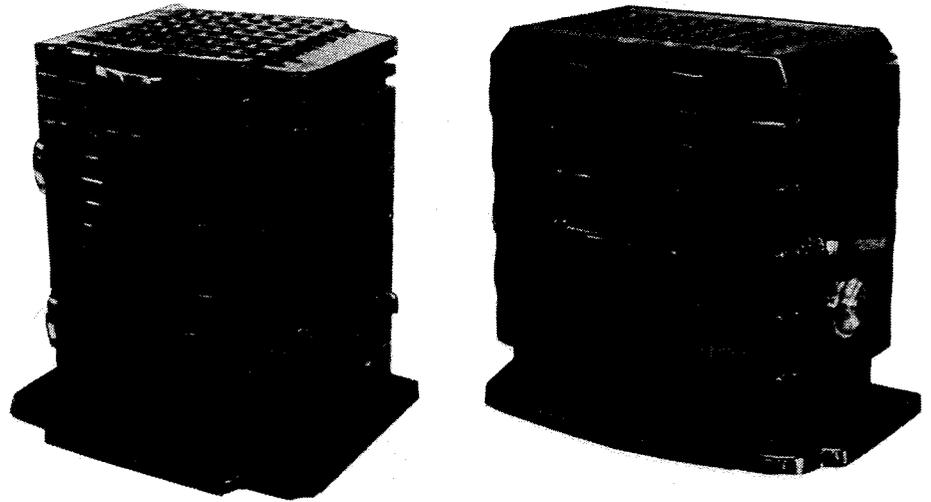

Fig. 36. Chappee 8033 wood/coal stove (left) and 8008 woodstove (right).
6. **Preston Distributing Co.** (importer), Whidden Street, Lowell, MA 01852. The Chappées (Fig. 36 and Table 4) are very well built radiant box stoves from France. Bases for the two models are optional (coal, \$39.50; wood, \$38.00). Discounts are available.